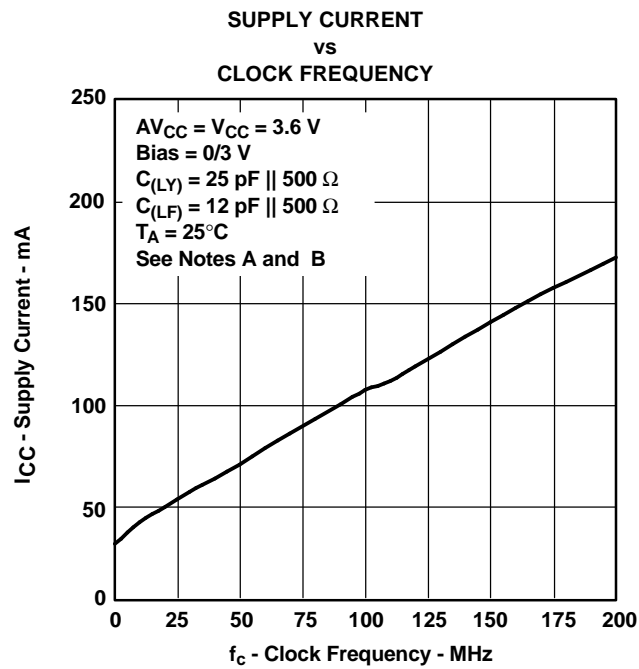

Figure 9.
(2) For dynamic I_{CC} vs Frequency, see Figure 8 and Figure 9.